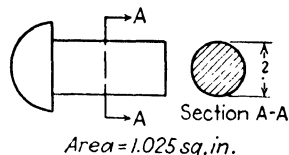

Fig. 79.
5. A steel rivet has a cross-sectional area of 1.025 sq. in. What is its diameter (see Fig. 79)?